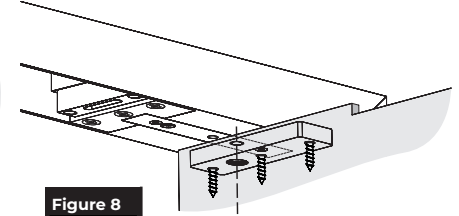

Figure 8
3. Tip door into vertical position aligning frame portion pivot stud to door portion hole. (Figure 8)